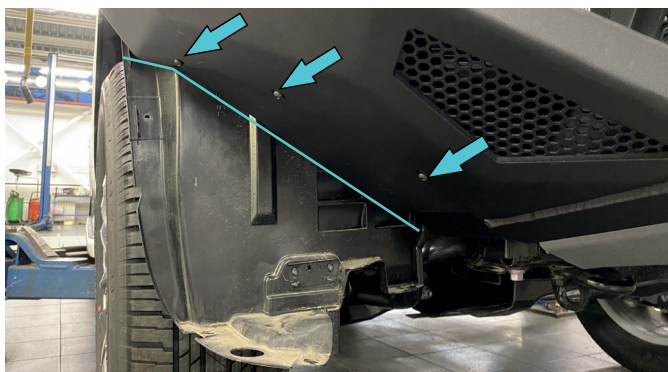

Fig.49
49. Install flaps (item 4, 6) using screw M6x20, washer 6 (item I, N) onto the bumper body on each side. ***Tighten hardware after that.** Push the flap to plastic fender and mark future cutting line. Cut plastic fender following marked cutting line using jig-saw or shears (fig. 49).